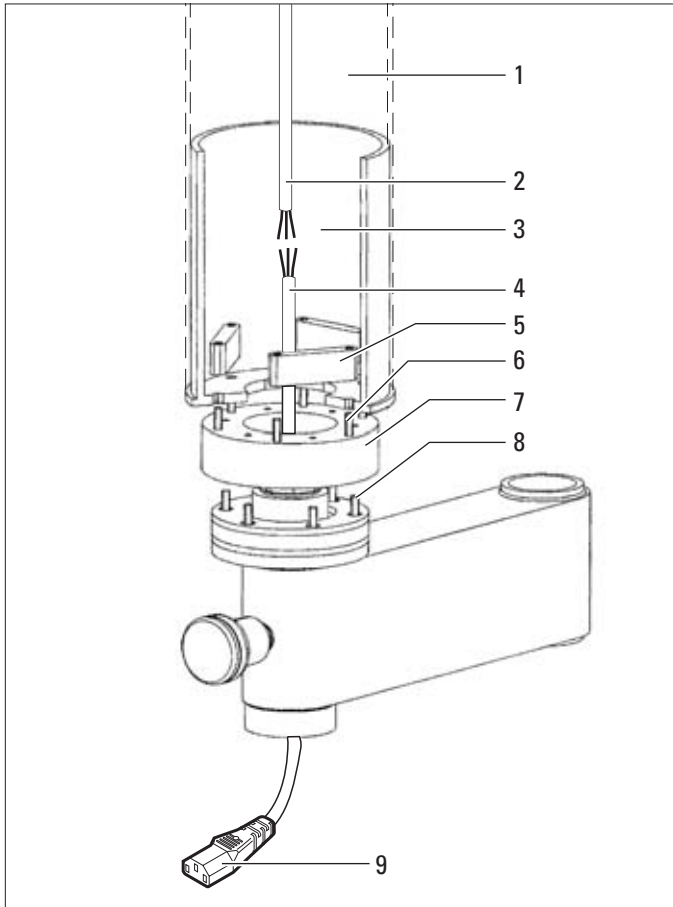

Fig. 1
⇒ Thread the power cable (4) through the axis of the swing arm and connect it with the power cable (2) from the ceiling with a power plug or clamped connection (Fig. 1).